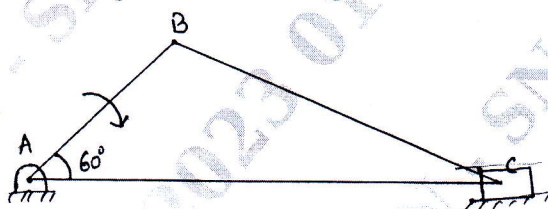

Fig.Q3(b)
- b. In a slider crank mechanism the crank $OB = 30$ mm and the connecting rod $BC = 120$ mm. The crank rotates at a uniform speed of 300 rpm clockwise. For the crank position shown in Fig.Q3(b), find: